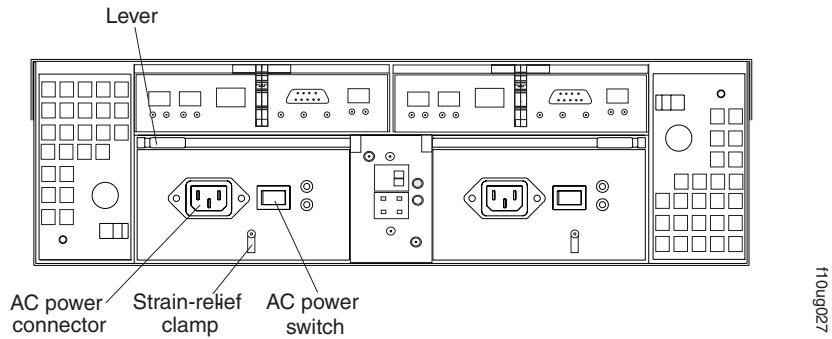

Figure 67. Lever for power supply removal
2. Turn off the ac power switch. See Figure 67 on page 92.